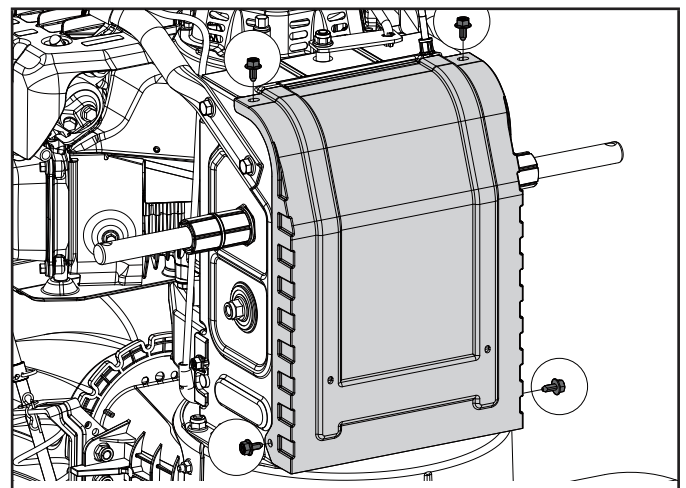

Figure 44
3. Remove the base frame cover from the underside of the snowblower by removing the four M6 x 16 screws which secure it (Fig. 44).